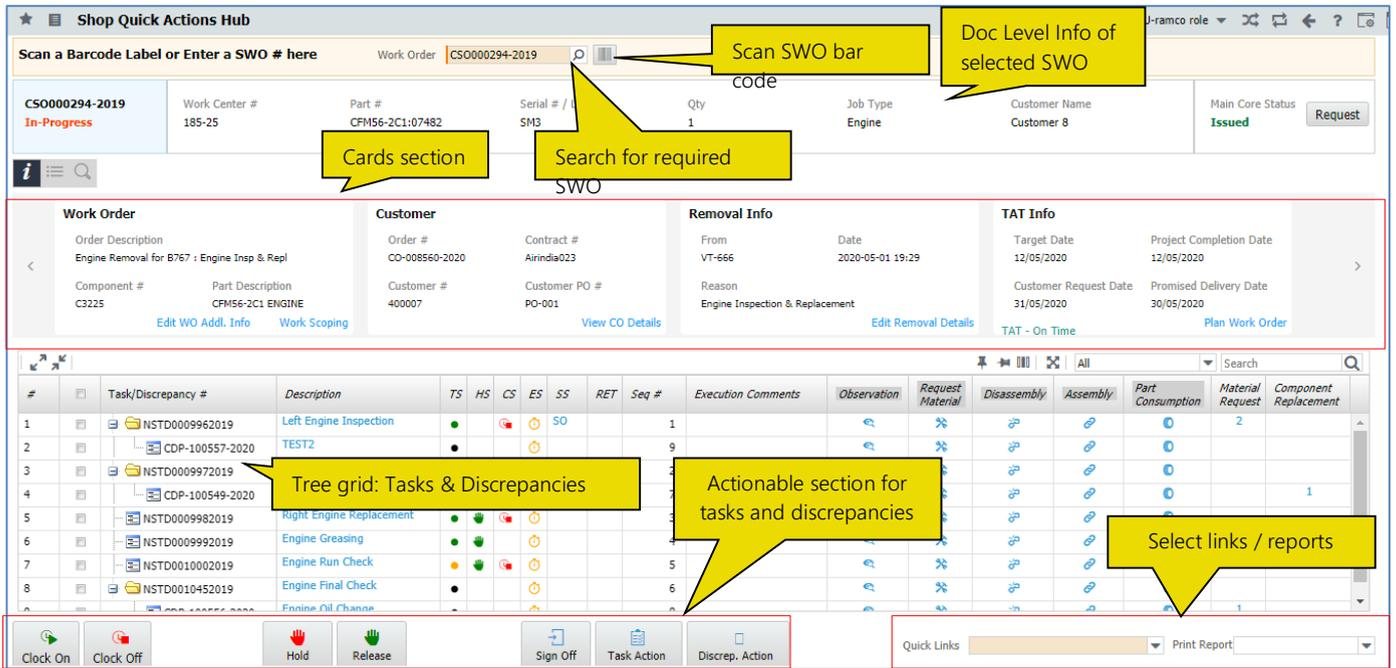

Figure 2.1 Design of Shop Quick Actions Hub screen
1. Select the **Shop Quick Actions Hub** link under the **Shop Work Order** business component. The **Shop Quick Actions Hub** page appears. See *Figure 2.1*.
The **Shop Quick Actions Hub** page displays details of the retrieved shop work order identified as **Doc Level Info** in the See *Figure 2.1*.